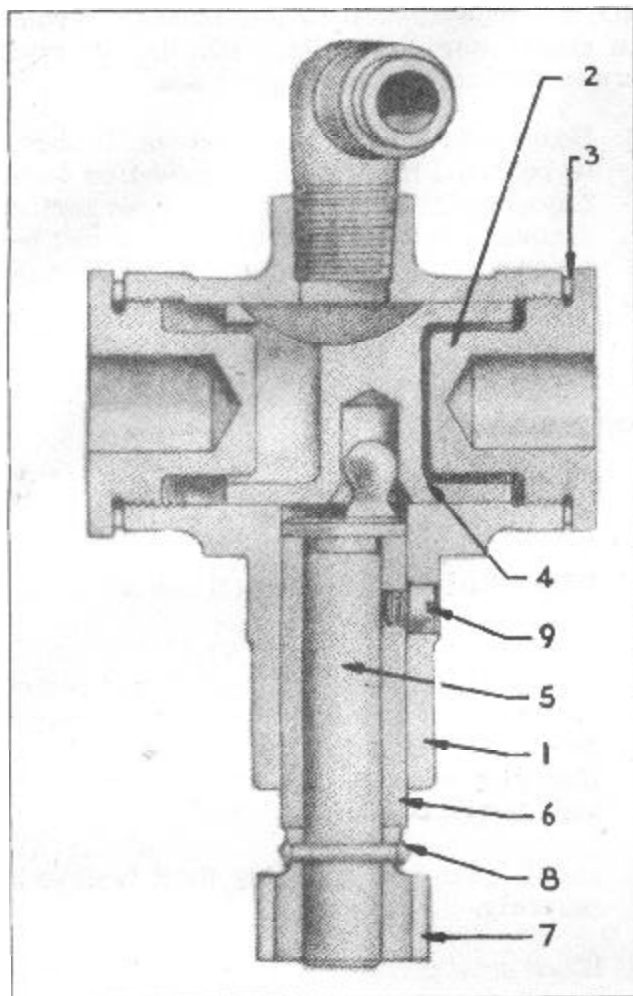

FIGURE 5
1. Remove the hex plug (2) and gaskets (3) from either end of oil pump, Figure 5.